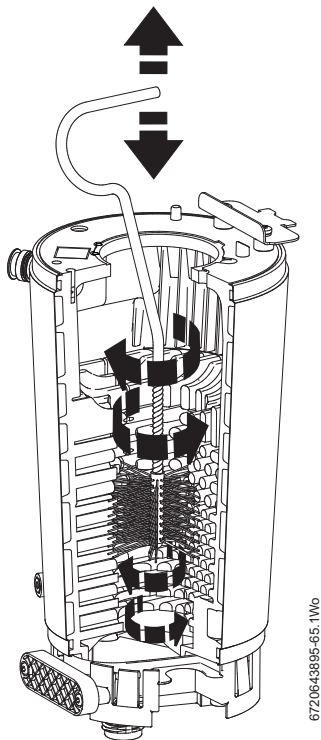

Fig. 64 Cleaning heat exchanger
- ▶ Refer to figure 64 and access the heat exchanger flue ways by inserting the cleaning brush (7 716 192 312) through the top access hole in the casing, removal of panel shown in figure 60.
- ▶ Re-assemble ensuring that the lower baffle (2) and the top baffle (1) are refitted correctly.